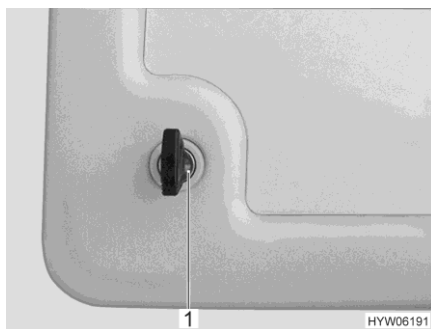
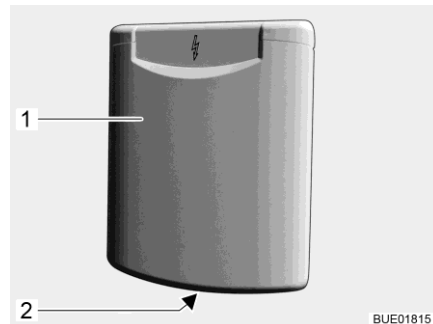

Fig. 63 Service flap push-button lock
Fig. 64 Service flap push-button lock (alternative)
- Insert the key into locking cylinder of the lockable push-button lock (Fig. 63,1 or Fig. 64,1) and turn a quarter turn. The push-button lock is unlatched.
- Press the two push buttons (Fig. 64,2) of the push-button locks simultaneously with the thumb and open the service flap.
- Insert the key into locking cylinder of the lockable push-button lock (Fig. 63,1 or Fig. 64,1) and turn a quarter turn. The push-button lock is locked.